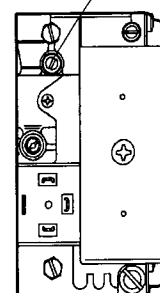

Fig.20a
- 6.6.7** Turn the appliance 'on' during the time the appliance lights at the reduced gas rate adjust the screw marked '1 step' (Fig.20a). Turn anticlockwise to increase clockwise to decrease.